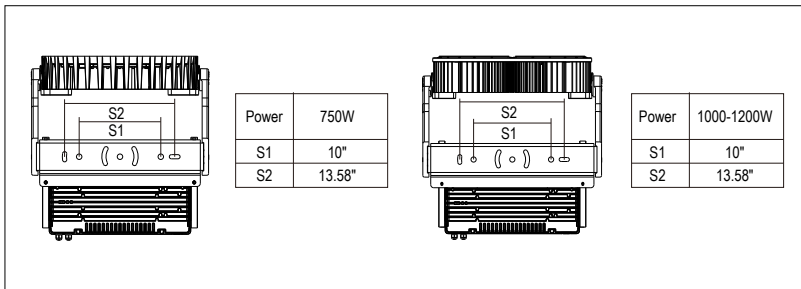

Figure 2
1. Mark the hole distance, S1 or S2, as shown on the product to be installed (Figure 2).